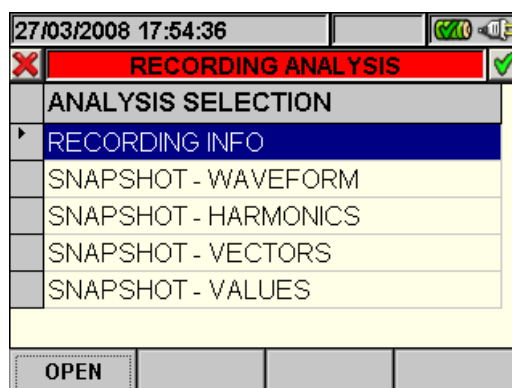

Fig. 98: Recording analysis (Istant-type data)
2. Press the **ESC** key (or the smart icon  on the display) to exit the function and go back to the "Recording analysis" page (Fig. 98).
- The **ESC** key (or the smart icon  on the display) to exit the function and go back to the "Recording analysis" page (Fig. 98).
- The **ESC** key (or the smart icon  on the display) to exit the function and go back to the "Recording analysis" page (Fig. 98)